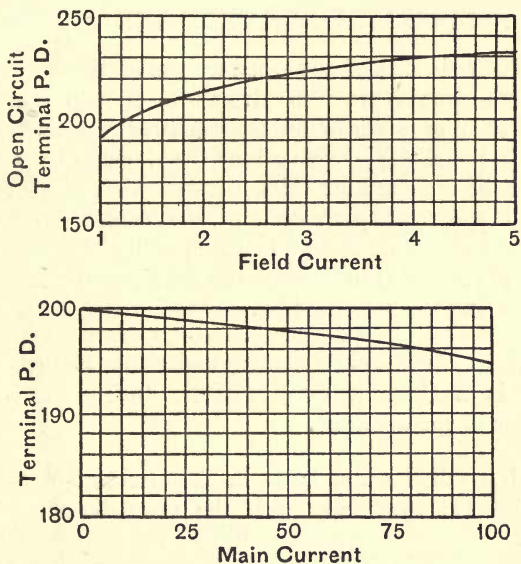

FIG. 18.
19. A dynamo is required to give up to 20 kw. at a constant P.D. of 200 volts, at a point $\frac{1}{4}$ mile away. The cable used has a resistance of 0.24 ohm per 1000 yards single. Number of shunt field turns 2000. Find the number of compound coils required, neglecting their resistance. Fig. 18